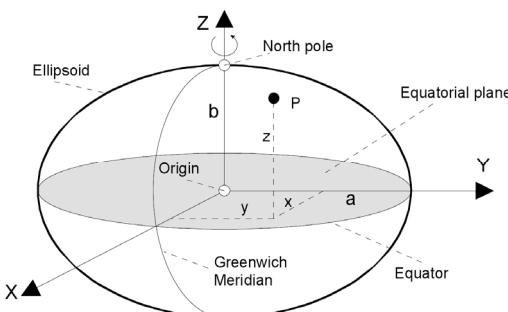

Figure 2: Earth-Centered Earth-Fixed Coordinate System
The MTi-G default local tangent plane Euclidian (LTP) is defined in the figure above, it has X pointing North and it is tangent to an arbitrary reference point (LLA). The third component (Z) is chosen Up which is common for many applications⁸. The vertical vector Z is perpendicular to the tangent of the ellipsoid as defined in the right figure. The latitude defined this way is “geodetic latitude.” As Figure 2 shows, the geodetic latitude is also used to define latitude in WGS-84 model. On the other hand, if one defines the latitude with respect to the centre of the Earth, the latitude is “geocentric latitude.” The maximum difference between “geocentric” and “geodetic” latitude is about 0.2 degrees.